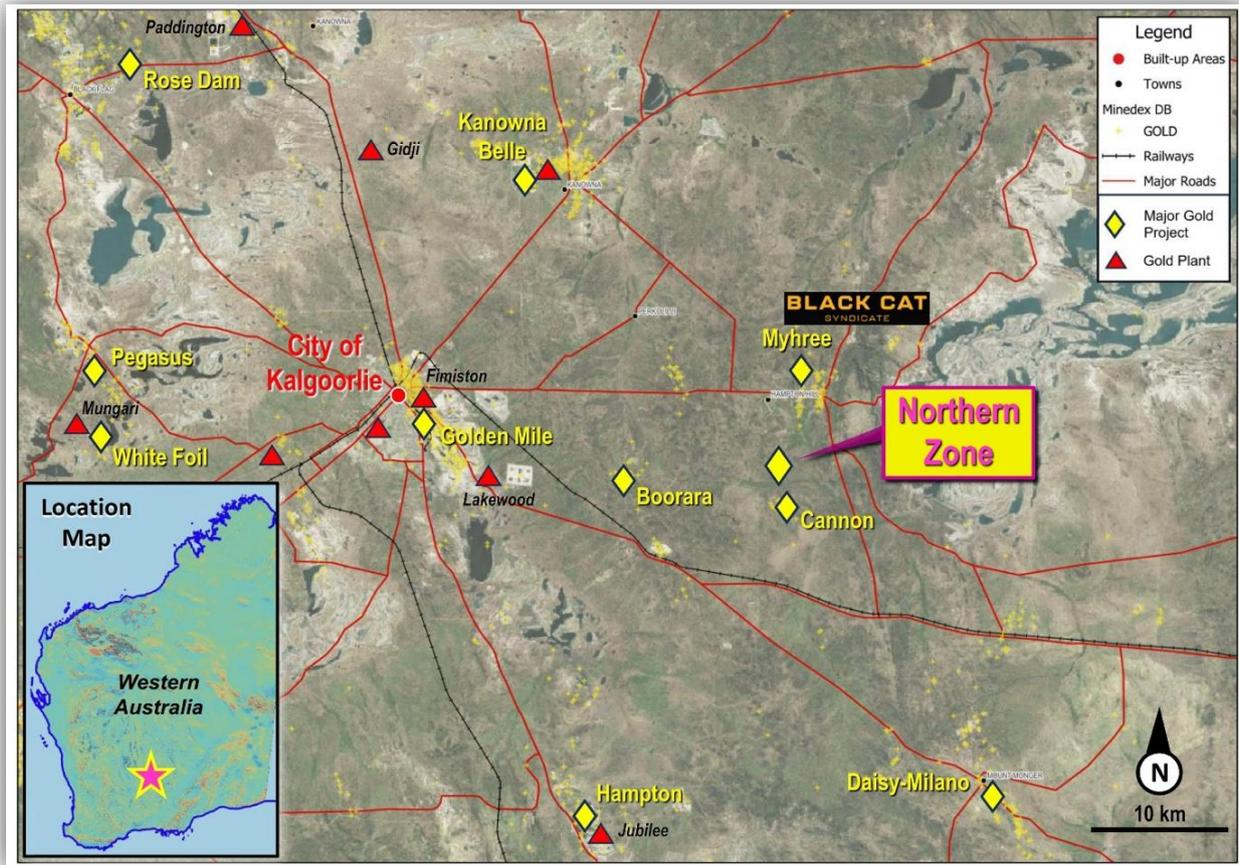

Figure 1: Northern Zone Project Map showing proximity to the Kalgoorlie "Super Pit".
Riversgold Limited (ASX: RGL, Riversgold or the Company) is pleased to announce further assay results from the vertical aircore (AC) drill holes of a 32 hole 1,805m program recently completed at the Northern Zone Intrusive Hosted Gold Project, located 25 km east of Kalgoorlie in Western Australia (refer to **Figure 1** for location). A further 414 samples from 11 drillholes are still to be assayed, with results expected in the near term.